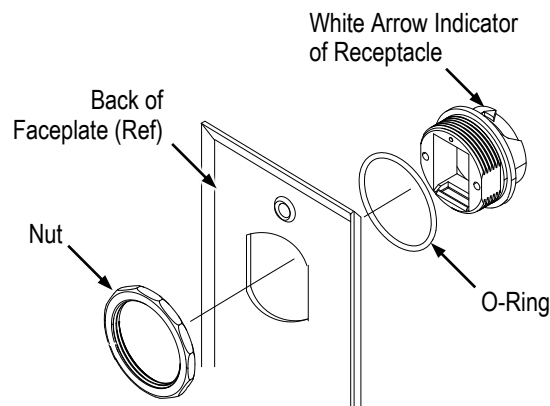

Figure 2
Cut the panel or faceplate according to Figure 2.
1. Slide the O-ring over the threaded portion of the receptacle. See Figure 2.
2. Insert the threaded portion of the receptacle through the front of the panel or faceplate. Orient the receptacle in the cutout so that the white arrow indicator on the front of the receptacle is facing up. See Figure 2.
3. From the back of the panel or faceplate, thread the nut onto the threaded portion of the receptacle. See Figure 2. Tighten the nut to a torque of 2.26 Nm [20 in.-lb].